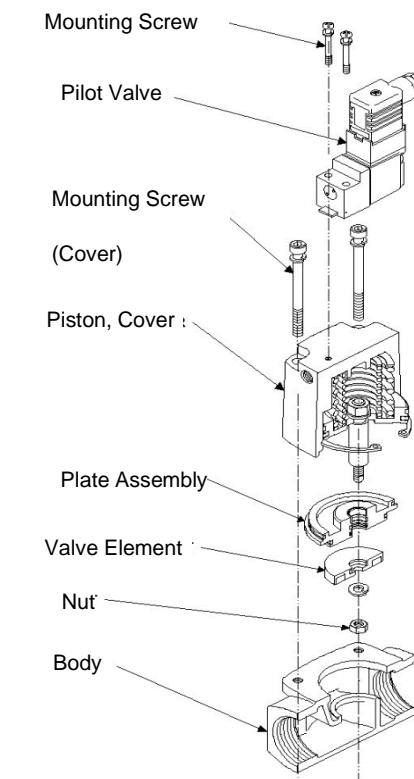

Figure 9
6.6.1 Replacing plate assembly and valve element (see Figure 9)
6.6.2 Replacing Pilot Valve Assembly (see Figure 9)